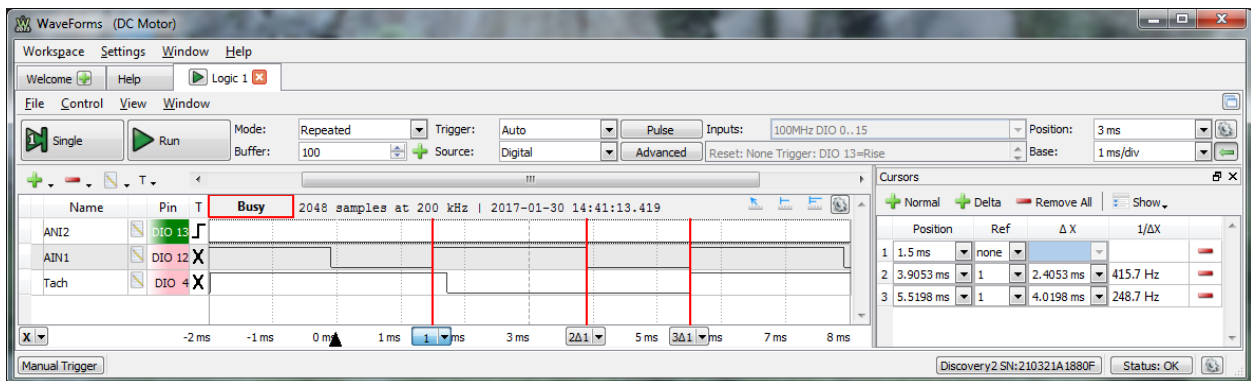
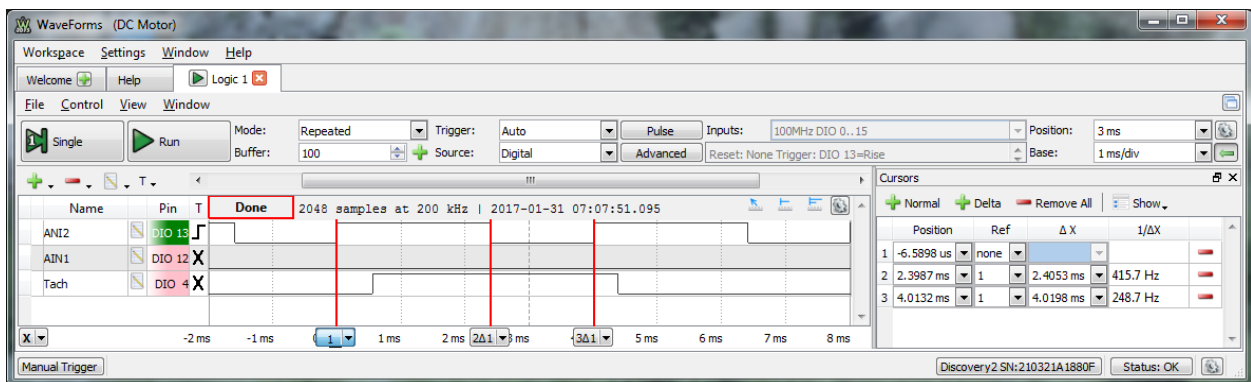

Figure 8.1. H-Bridge inputs for CW motor rotation for 60% PWM.
Figure 8.2. H-Bridge inputs for CCW motor rotation for 60% PWM.
- d. With the project running, set the Analog Discovery 2 to capture the waveforms for AIN1 and AIN2. The display should be similar to Fig. 8.1 when SW7 is off (low) and similar to Fig. 8.2 when SW7 is on (high).
- e. Capture a waveform as shown in Fig. 8.1 or Fig. 8.2 to determine the PWM period and duty cycle. Record the PWM period and duty cycle values.